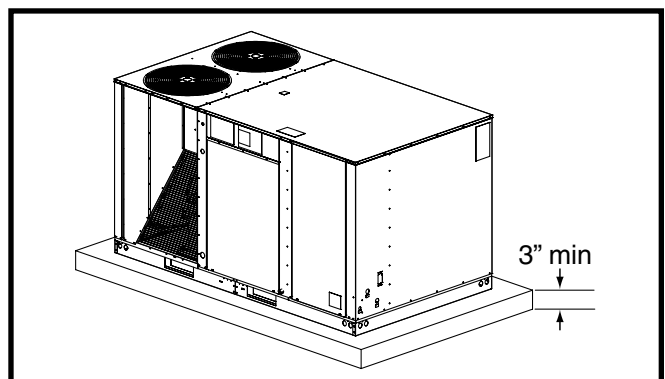

Figure 7. Concrete Mounting Pad
- A concrete mounting pad (Figure 7) must be provided and separate from the building foundation. The pad must be level to ensure proper condensate disposal and strong enough to support the unit's weight. The slab height must be a minimum of 3" (8 cm) above grade and with adequate drainage.